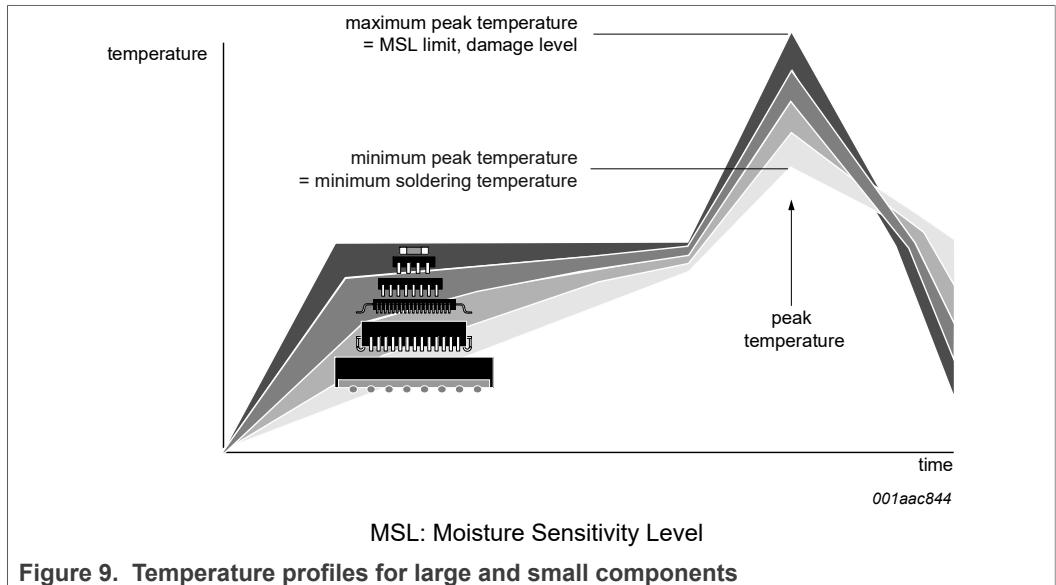

Figure 9. Temperature profiles for large and small components
- Lead-free versus SnPb soldering; note that a lead-free reflow process usually leads to higher minimum peak temperatures (see Figure 9) than a SnPb process, thus reducing the process window
Studies have shown that small packages reach higher temperatures during reflow soldering, see Figure 9.